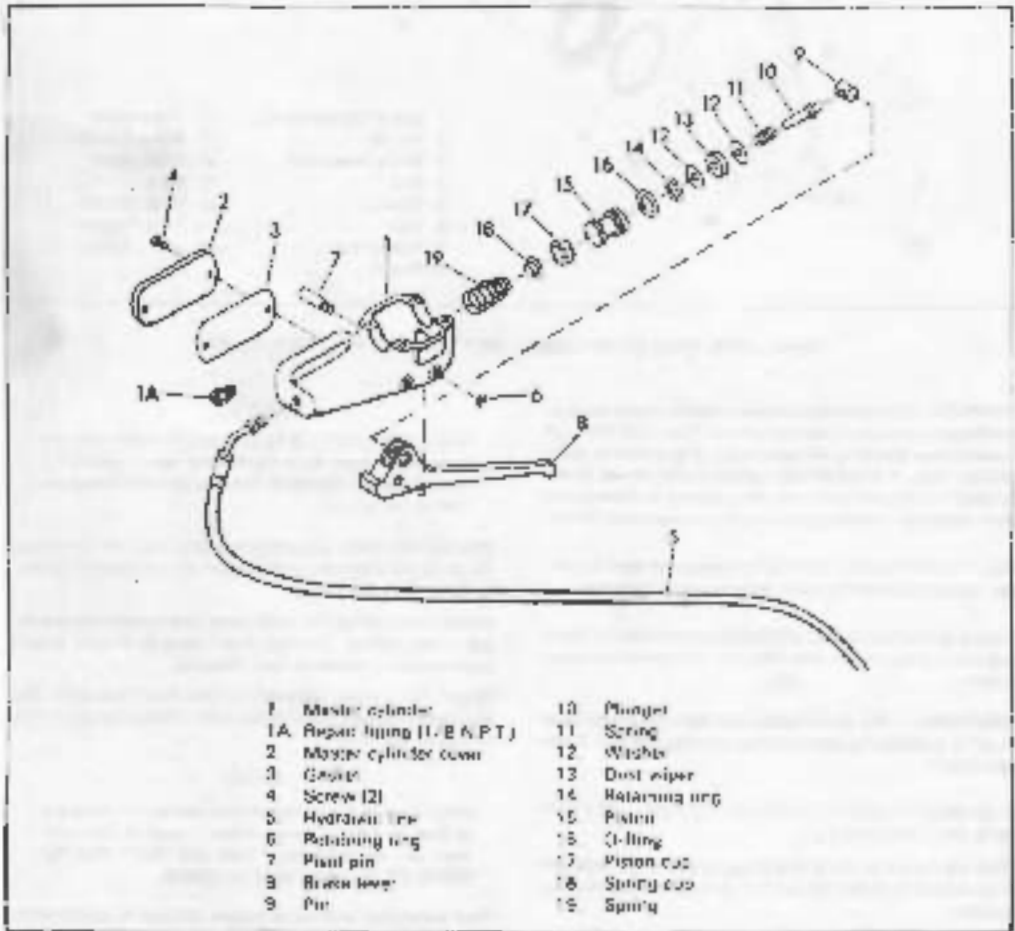

Figure 2-67 Front Disc Brake Master Cylinder, 1972 and Later FL, 1973 and Later FX, FXE, FXS - Exploded View
**DISASSEMBLING (Figure 2-67)**
**INSPECTING AND SERVICING (Figure 2-67)**
### ASSEMBLING (Figure 2-67)